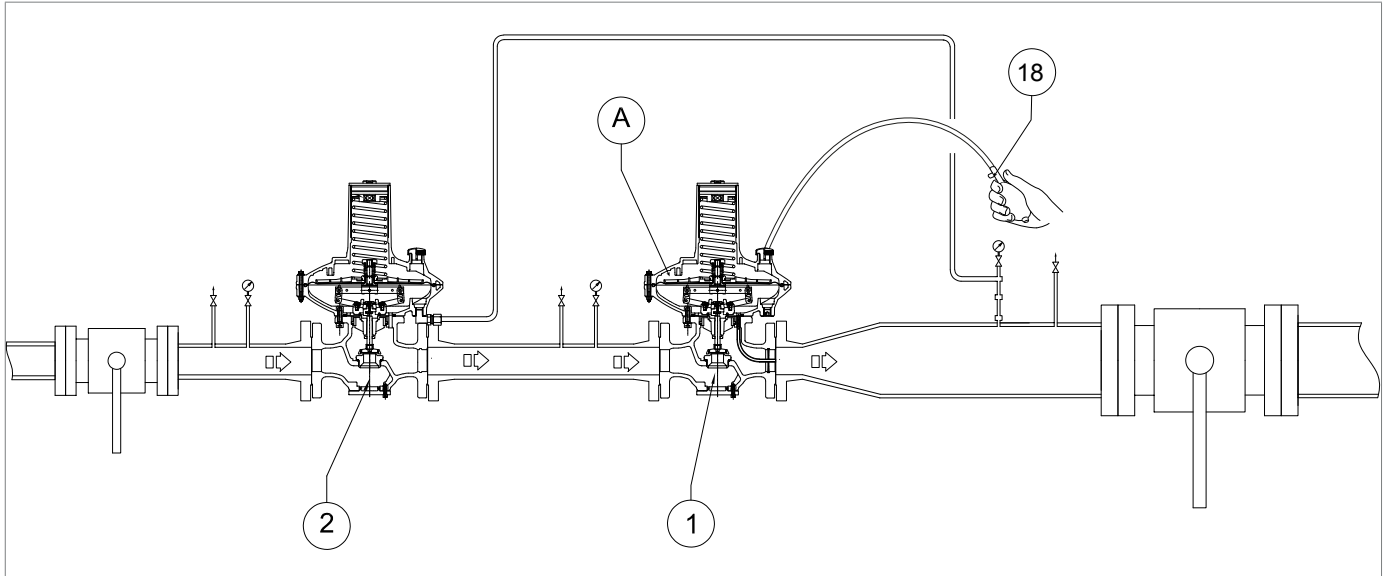
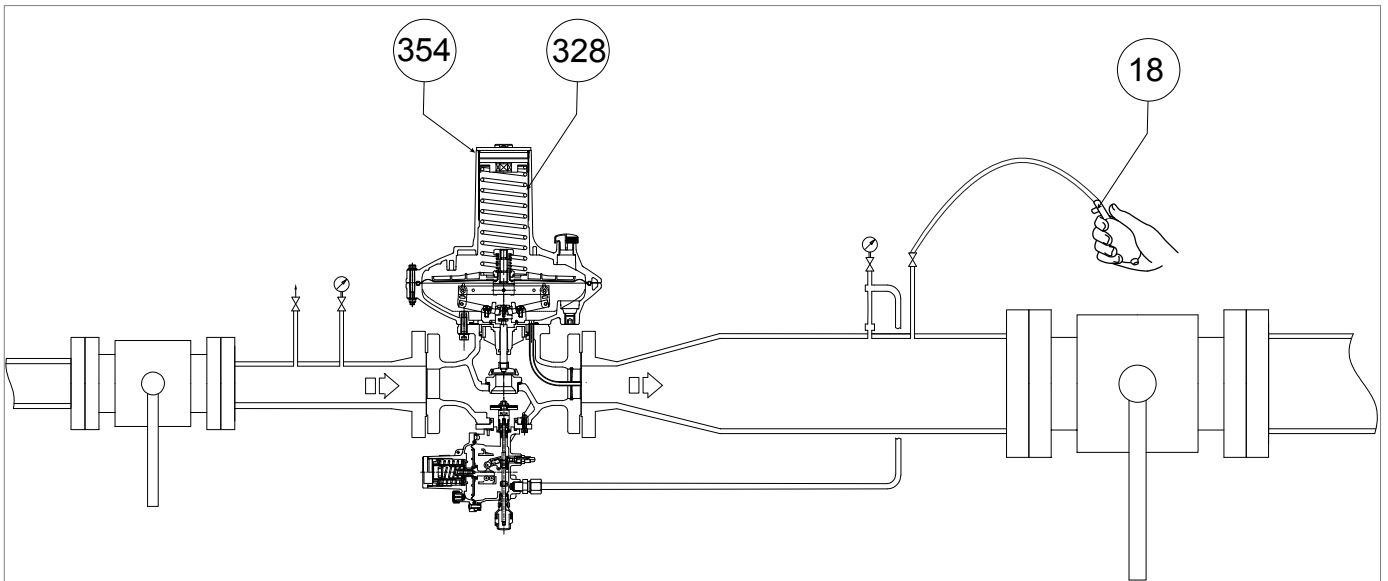

Fig. 8.19. Pressurising with external source (hand pump)
Fig. 8.22. Pressurising with external source for incorporated LA slam-shut valve
3	<p>If necessary, remove the closing cap (fig. 8.22, ref. 354) together with the adjustment ring nut and remove the regulation spring (fig. 8.22, ref. 328).</p> <div style="border: 1px solid blue; padding: 5px;"> <p>! NOTICE!</p> <p>Check the tripping pressure value of the slam-shut valve indicated on the downstream pressure gauge (fig. 8.19, ref. 5).</p> </div>